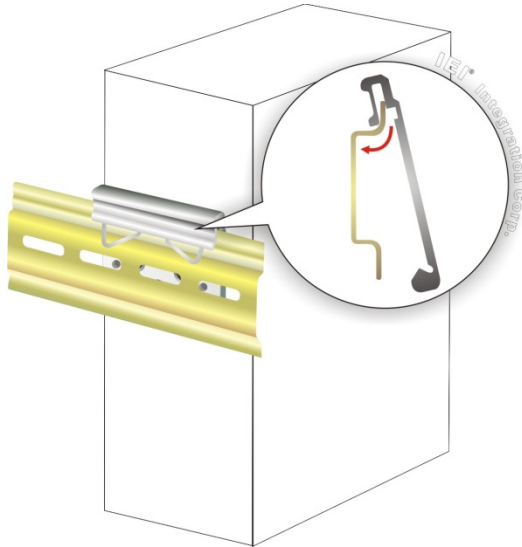

Figure 3-22: Attach the Mounting Bracket to the DIN Rail
Step 2: Attach the upper edge of the mounting bracket to the DIN rail as shown in **Figure 3-22**.